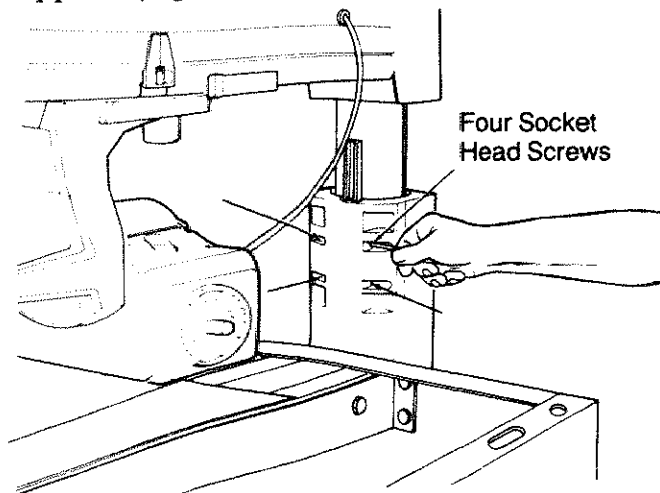

Fig. 35
1. Use a $3/16''$ hex "L" wrench to loosen the four screws in the front of the column support. (Figure 35)